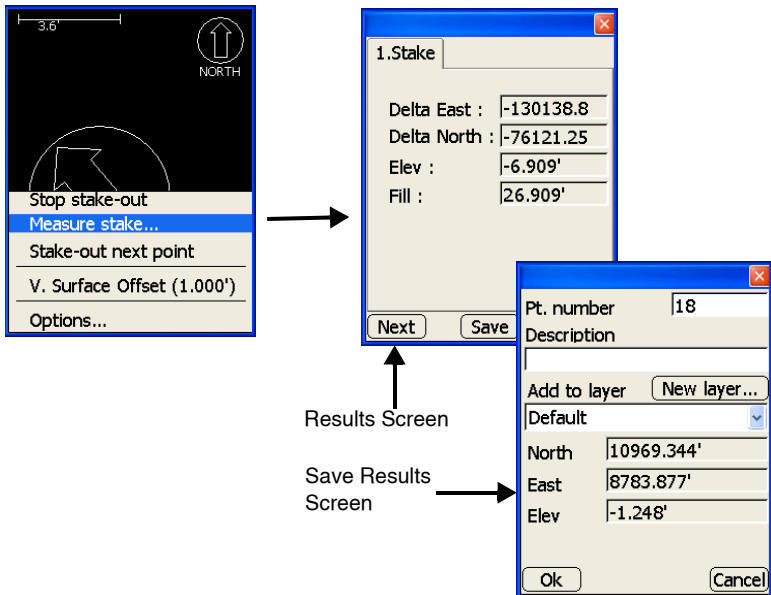

Figure 7-21. Measure Point and Stakeout Results
3. Proceed to the desired coordinates and press **Survey ▶ Stake-out ▶ Measure stake** (Figure 7-21 on page 7-17).
The **Measuring** dialog box displays while Pocket-3D measures the point. When finished, the **results** screen displays Delta East, Delta North, Elevation, and Cut/Fill information (Figure 7-21 on page 7-17).
4. Press **Save** to display the **save results** screen and enter the point number/description and layer/new layer information for the stored point (Figure 7-21 on page 7-17).
5. Press **Ok** to return to the **results** screen (Figure 7-21 on page 7-17).